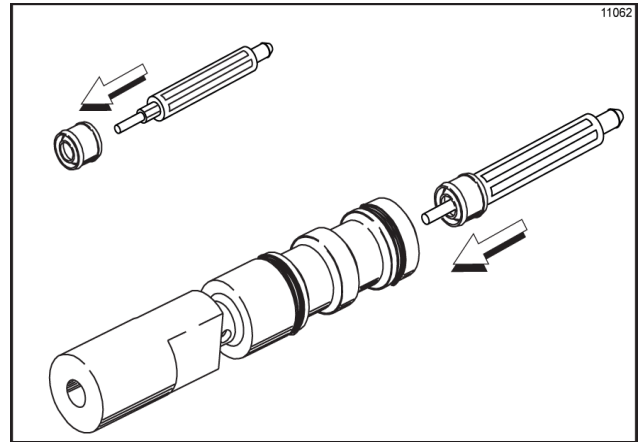

Figure 6-10
**Important!** Inspect to see that the spinner shaft seal is correctly installed in the groove. A worn, missing, or improperly installed spinner shaft seal will cause product leakage out the top of the draw valve. (See Figure 6-10.)